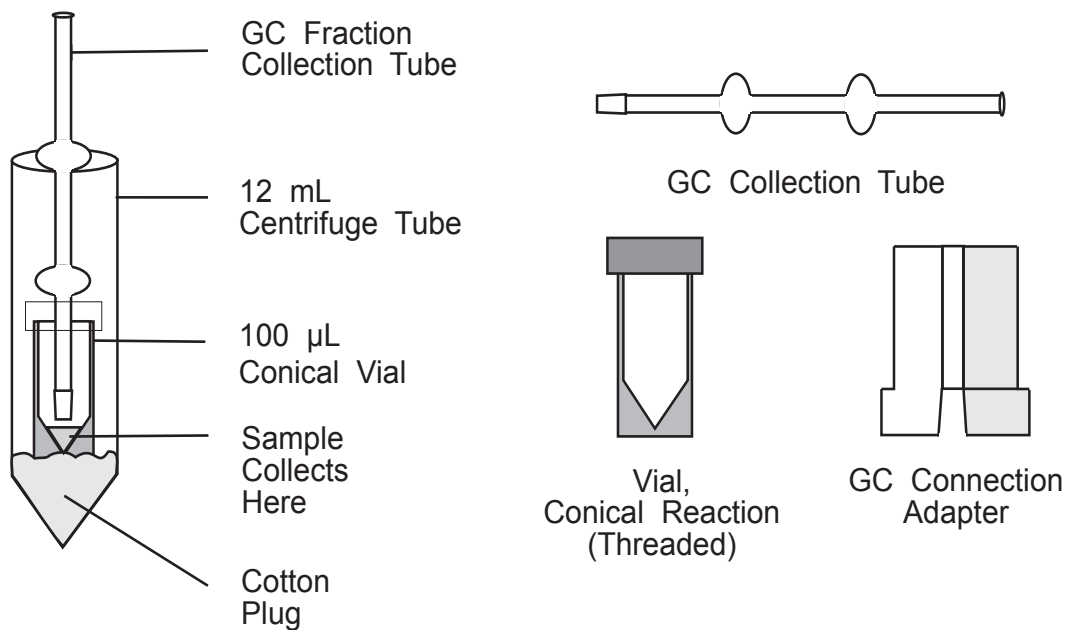

Figure 8-1
- The collection tube is then connected to a tares 100 μL conical vial via the $\frac{3}{5}$ joint and placed in a centrifuge tube (cotton padding around the collection tube and bottom of the vial is recommended). Refer to the Figure 8-1. The system is then centrifuged. The collected GC fraction is efficiently packed into the conical vial by this procedure. The vial is then detached from the collection tube, capped and weighed.